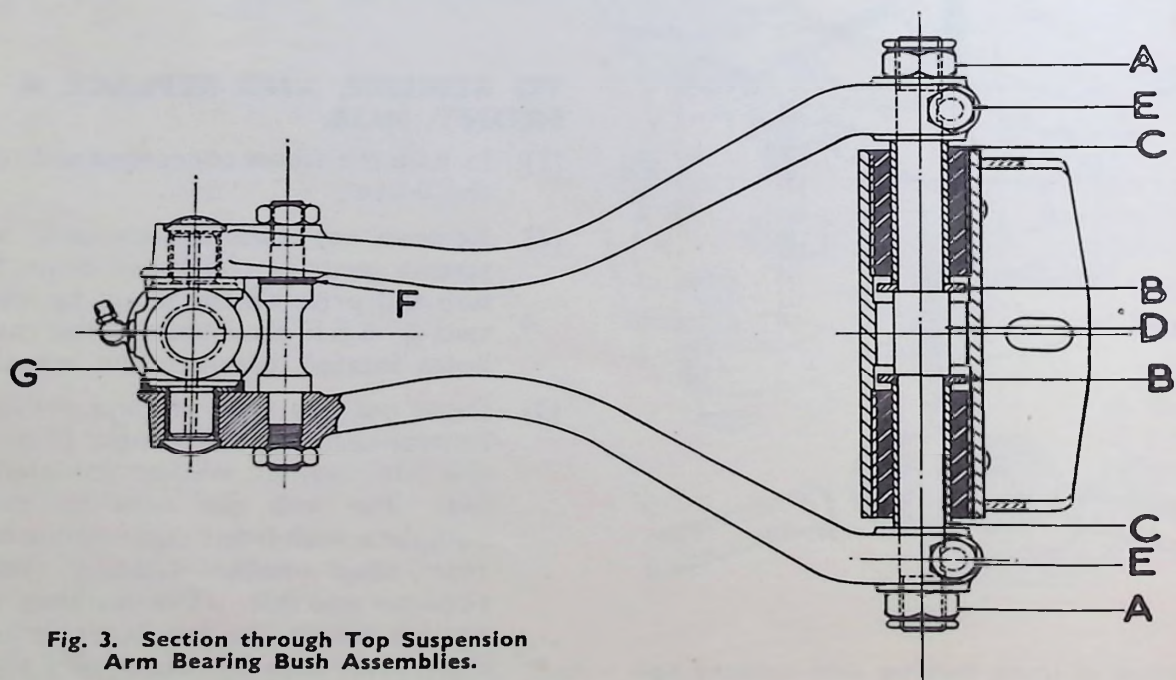

Fig. 3. Section through Top Suspension Arm Bearing Bush Assemblies.
- (1) Jack up the car by the forward frame Jack bracket until the shock absorber is extended to its full length and remove wheel.
- (2) Detach the brake hose and pipe union junction from the chassis bracket of the suspension arm.
- (3) Remove the split pin and nut securing the upper suspension arm trunnion to the swivel pin.
- (4) Release the clamp bolts "E" securing the top arms to the main spindle and the nuts "A" (Fig. 3) on the ends of the spindle, then move the trunnion upwards out of engagement with the swivel pin.
- (5) Bend down tabs of lockwashers and remove the three nuts securing the horizontal flange of the bracket to the chassis, also bend down tabs on front vertical face of bracket and remove the two nuts then detach the top arm assembly.
Carefully note the position and number of shims located on the two horizontal studs (these may be half or whole). The purpose of these shims is to position the bracket on the chassis in a manner which will allow the trunnion marked "G" in Fig. 3, to slide freely over the swivel pin and in addition enable the camber to be reset.
- (1) Should it be necessary to replace the trunnion bushes it is preferable to broach them in position rather than ream. A suitable broach can be purchased from the Service Department—price on application. Check that the oil holes register before broaching.
- (2) When assembling the rubber bearing assemblies to the chassis bracket use a mandrel, which is slightly smaller in diameter than the bore of the bracket, to press in the bearings until the outer steel shells butt up against the shoulders machined in the bores. Use also new abutment washers, "B".
- (3) When assembling the arms and trunnion fit the thrust washers so that the radii on their bores are towards the trunnion thrust faces and that the sealing washers, preferably new ones, are fitted as shown in Fig. 3. If new thrust washers are fitted add or subtract shims at "F" until the trunnion moves freely without end play when the nuts are securely tightened.
- (4) Assemble the arms to the main spindle, but do not tighten the clamp bolts or end nuts at this juncture.
- (5) With the nuts and bolts securing the top arm bracket to the chassis tightened, check that the trunnion will slide freely